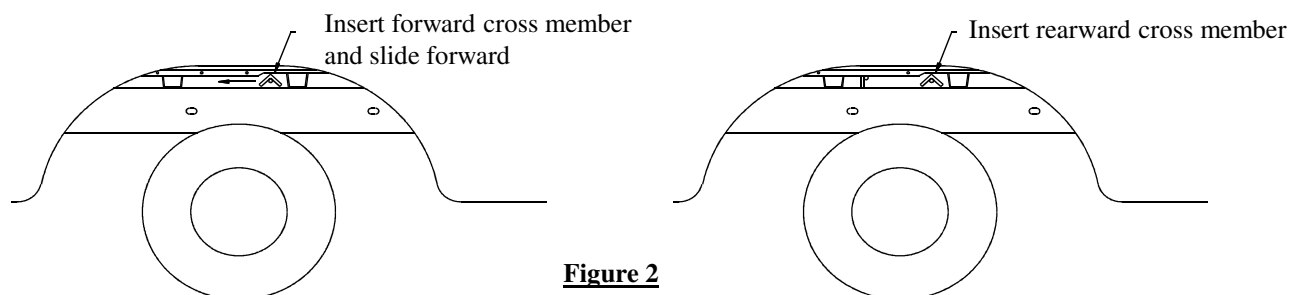

Figure 2
1. Slide the forward and rearward cross members between the frame rail and the bed of the vehicle as shown in Figure 2. The forward cross member has (2) additional holes centered between the long slots.
1. On some model years, the rearward hat section of the vehicle bed will have two sheet metal reinforcements that will need to be flattened or removed from each side of the vehicle, see Figure 2 for locations.